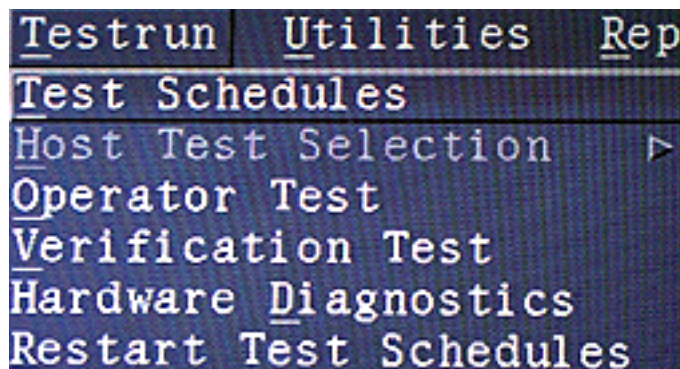

Figure 1
- 7.8 Verify that the test number has been entered on the VDA and the <Command-S> keys have been pushed. On the CDTCS computer, under the “Testrun” menu item select “Test Schedules.” See Figure 1.
- 7.7 On the “Test Schedule File Selection” screen, in the “Files” section select “VDA Emission Test” and then click on the “Run Test” button. See Figure 1